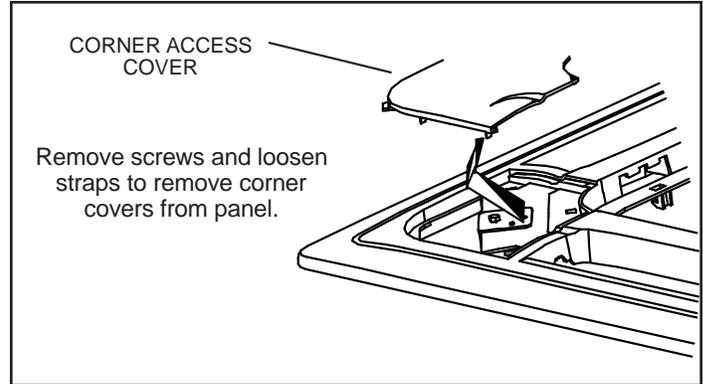

Figure 14. Remove Corner Covers
3. Remove access covers from each corner of the panel. See figure 14.